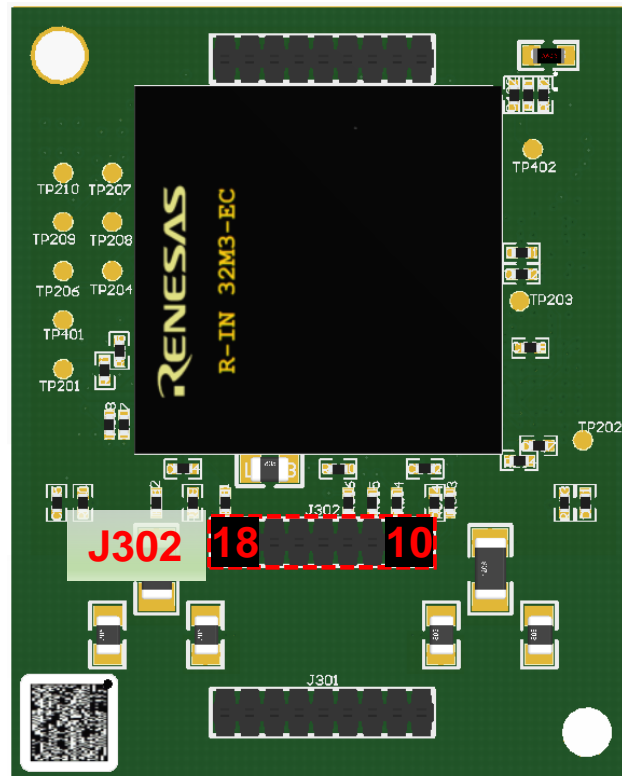

Figure 4: Bottom view CAN 9 pin connector J302
With further development of Intelligent RJ45 Module, the SoM_iRJ45 supports additionally two CANopen ports. Both ports just offer the transceiver (TX) and receiver (RX) signals per port. For complete CAN connection, additional components are required. Following Figure 4 give an overview about the connection pins of J302. Subsequently all 9 pins will be described and a sample schematic for a complete CAN wiring represented.